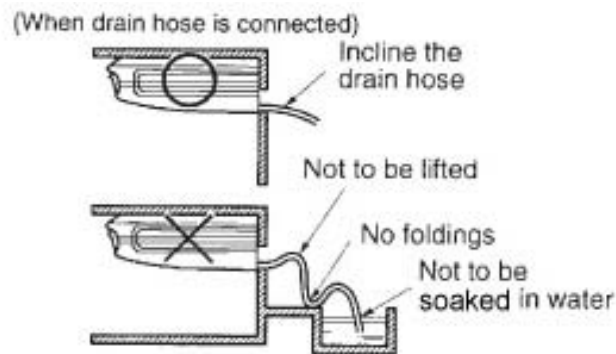

Fig. 11-23
- (1) The drain pipe outlet direction can be chosen from either the right rear or right.
- (2) The diameter of the drain pipe should be equal to or greater than the diameter of the connecting pipe. (Vinyl tube: pipe size:20 mm, outer dimension: 26mm)
- (3) Keep the drain pipe as short as possible and incline downwards at a gradient of at least 1/100 to prevent air pockets (refer to Fig. 11-23)